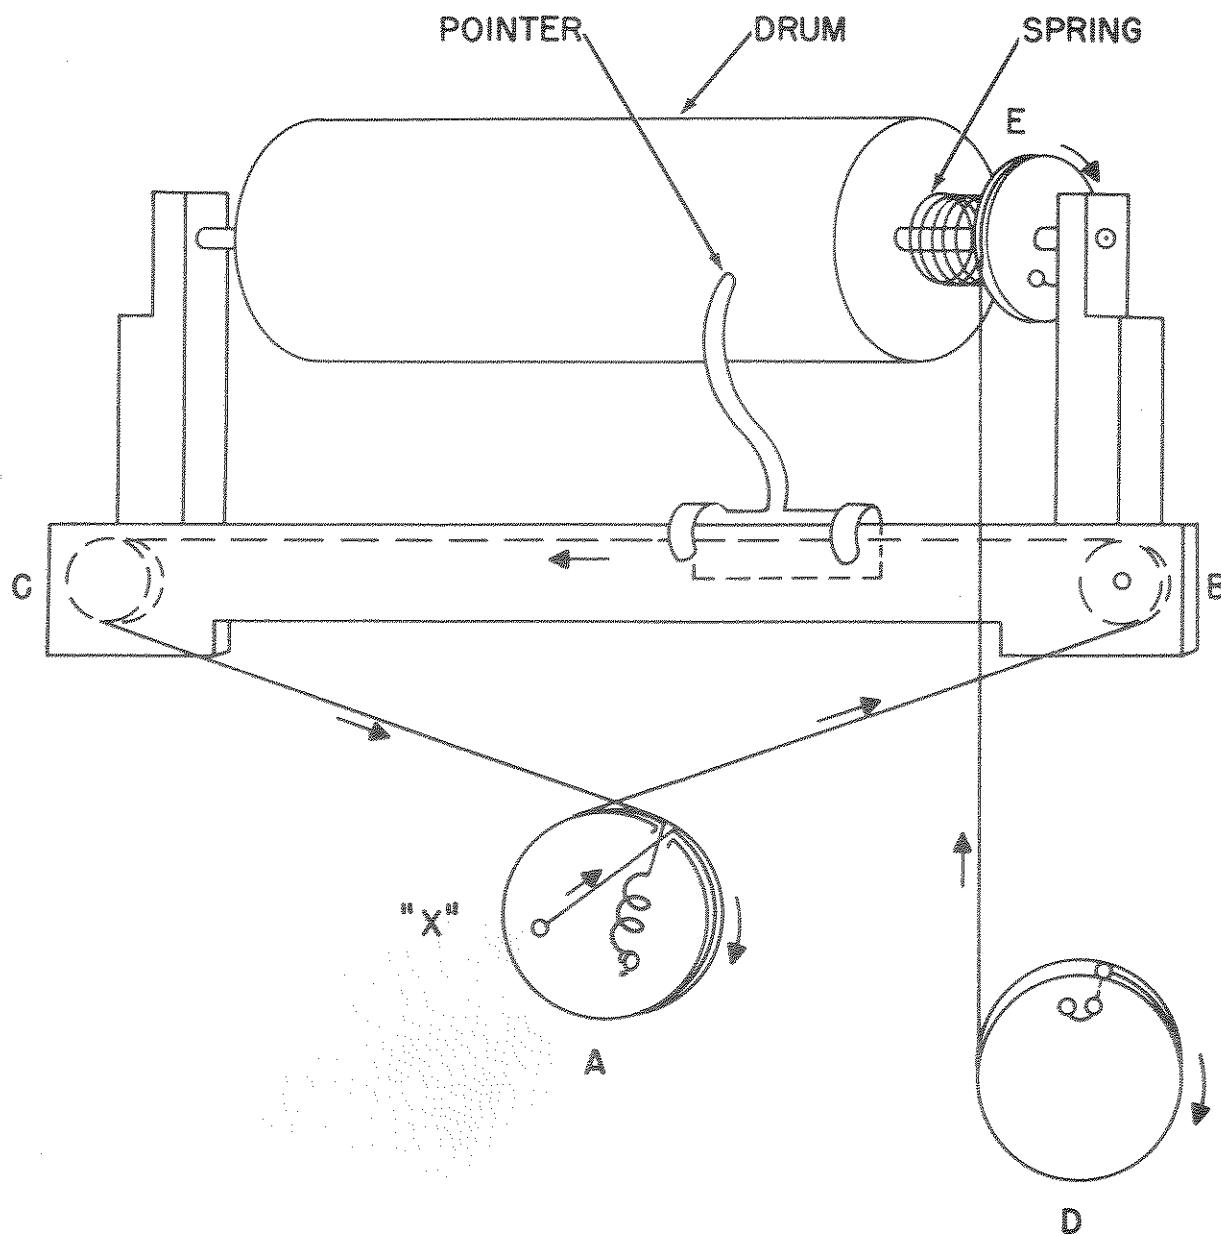

Figure 5-6. 51J-3 Dial Cord Arrangement
5.8.1. MEGACYCLE POINTER CORD. - Refer to figure 5-6. Remove the front panel according to directions in paragraph 5.6.2.(a). If the cord is to be replaced, use $36-5/8$ inches of Collins number 432 1009 00 nylon-covered cord.
(b) Tie a loop in the cord. Loop the cord over the tab at point X in figure 5-6.
(b) Turn pulley E, figure 5-6, about one-half turn and hold tension of spring.